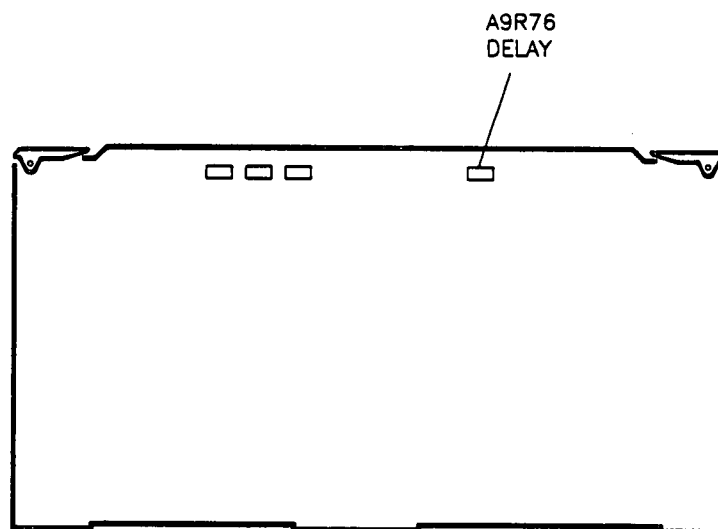

Figure 3-36. Pulse Delay Adjustment Location
6. Preset A9R76 (see figure 3-36) fully counter-clockwise.